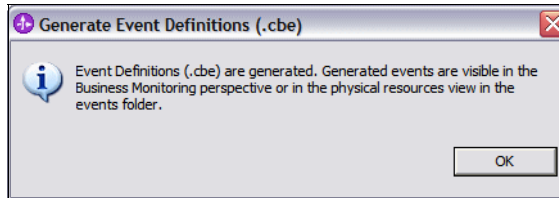

Figure 12-14 Created .cbe files
- ▶ A confirmation window opens (Figure 12-14), Click *OK*.